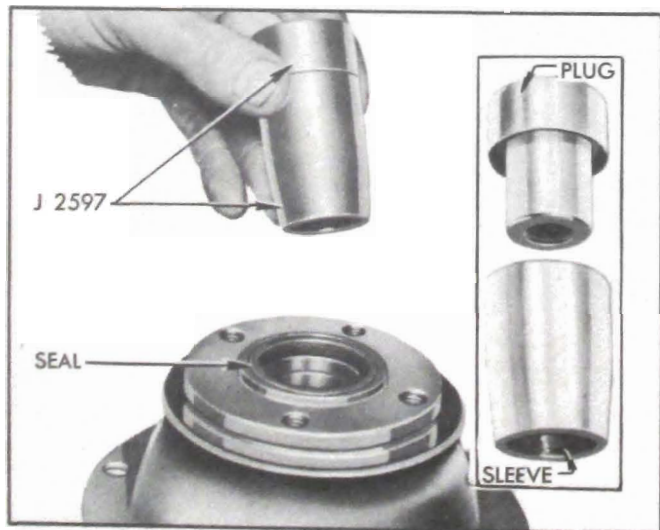
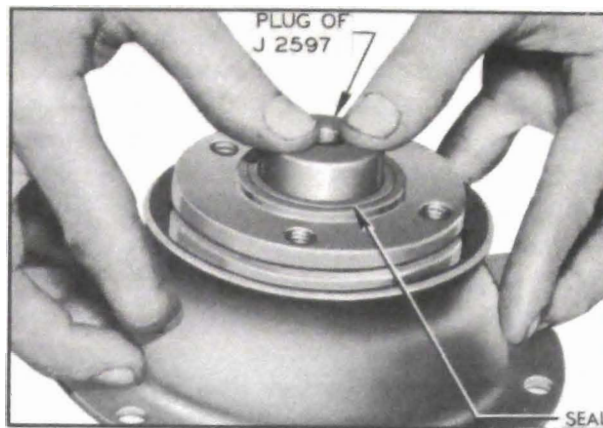

Figure 4-20—Torque Ball Installing Tool J 2597
Figure 4-21—Pushing Installing Tool into Universal Joint Oil Seal
8. Assemble sleeve and plug of Installing Tool J 2597 together (fig. 4-20), then push tool through rear side of oil seal until the leather edge is on the plug, at which time the sleeve will drop off the plug. See figure 4-21.
15. Always use Installing Tool J 2597 (fig. 4-20) when installing torque ball to avoid damage to oil seal.